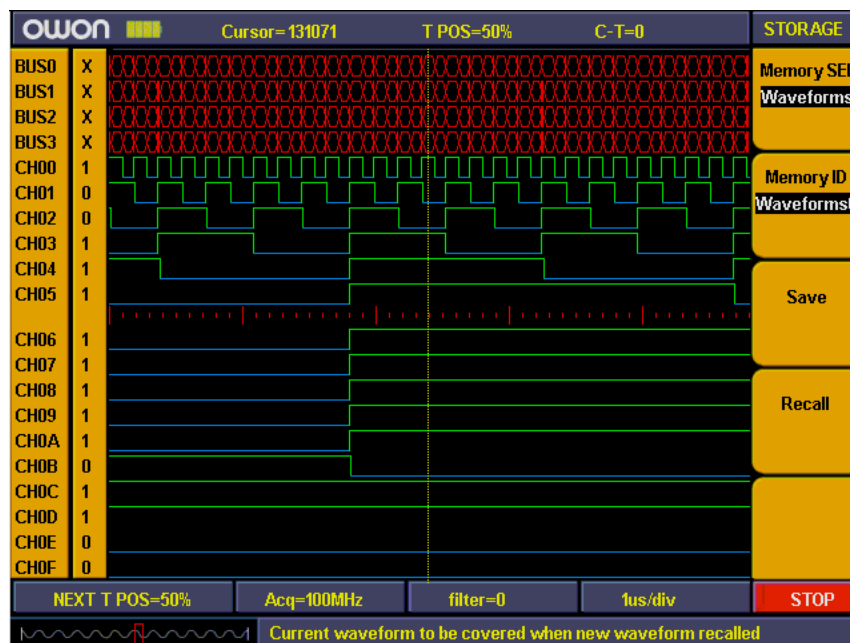

Fig.100: Waveform saving
8. Press **"F4"** to recall the memory waveform or settings (refer to Fig.100)